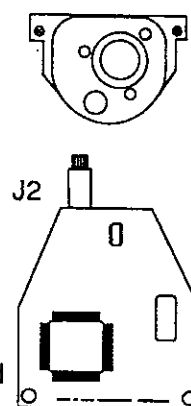

Fig. 5
- Step 5** See Fig. 5. Remove flat cable (J2) from PA-0155S1.